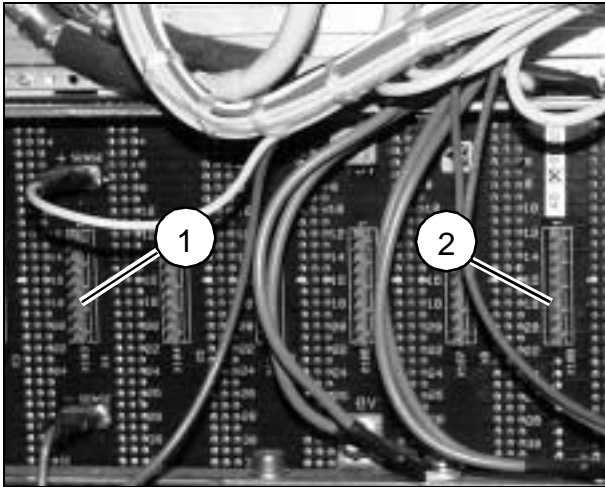
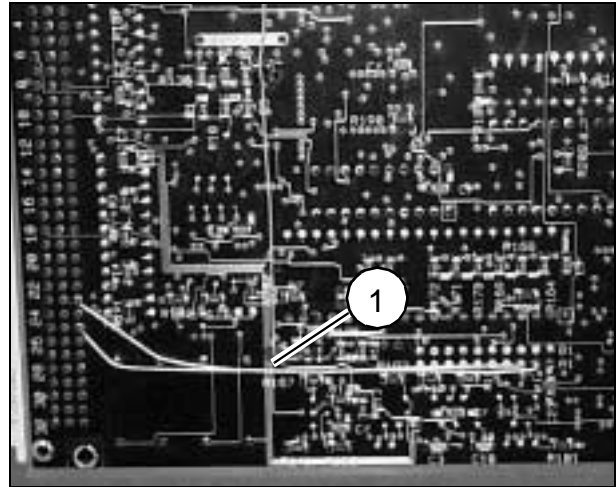

Fig. 1
Fig. 2
- Run the cables on the rear of the electronics frame from terminal strip X103 (1/Fig. 1) to terminal strip X108 (1/Fig. 2).
- On PC board D3, solder the following wires (1/Fig. 2):